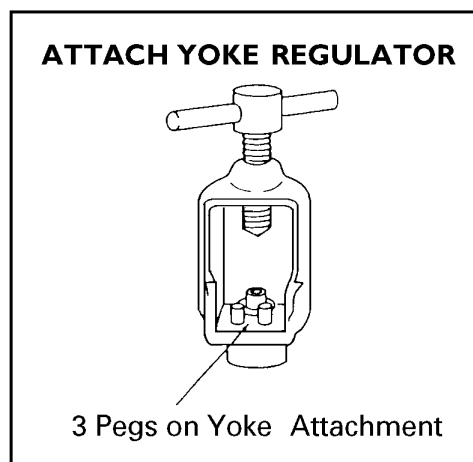

Figure 3-14
- (2) Examine the yoke attachment and locate the three corresponding pegs on the yoke attachment. (See Figure 3-14.)